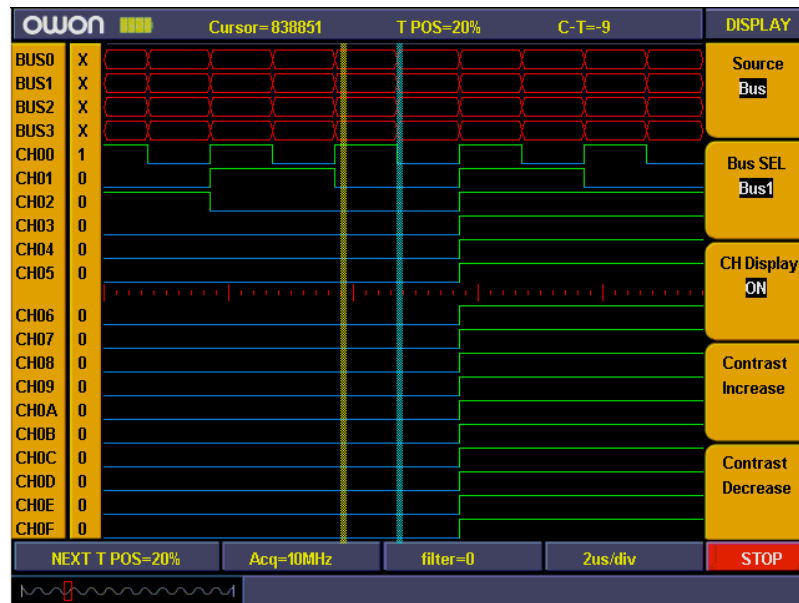

Fig.14
- 7、 Press “**F3**” and set signal sources as “**OFF**”. Repeat operation of steps 6.7 and set BUS1、BUS2、BUS3 all as “**OFF**”. Ref to Fig.14